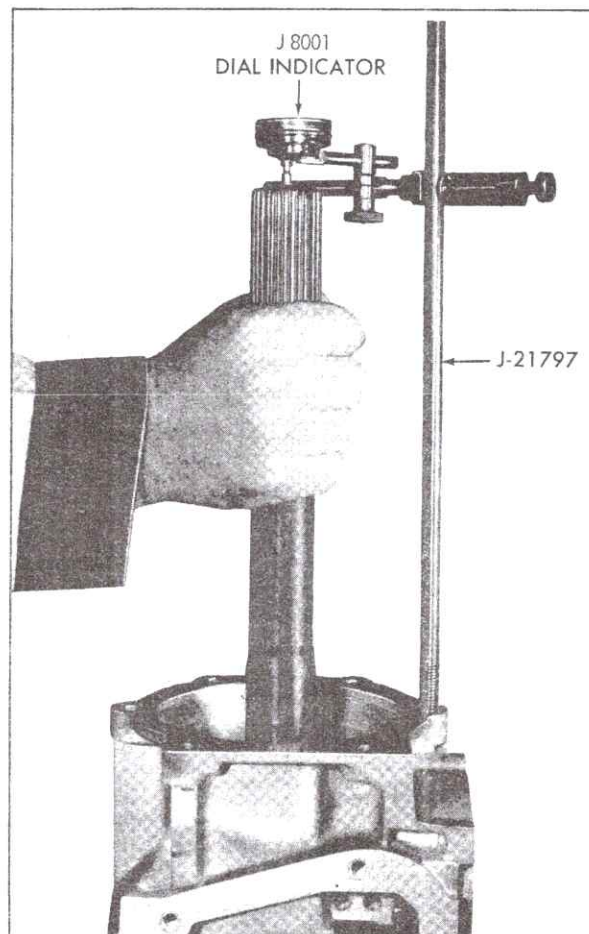

Fig. 7-44 Checking Rear Unit End Play
2. Mount Dial Indicator, J-8001, on Bolt, J-21797, and index indicator to register with flat surface on end of output shaft, Fig. 7-44.